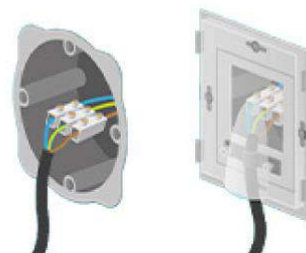

Figure 5
After confirming that the rated values of electricity meters, wires, switches, fuses in the power supply system meet the power consumption requirements of this product, connect a separate three wires cable at an appropriate position to supply power to the electric water heater (as shown in Figure 5).
2. Connect the product electrically as shown in Figure 5 to turn on the water heater. At this point, the indicator light will turn on.